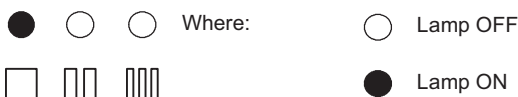

Figure 10.16
- The lamps F should give the indication as in Figure 10.16. If not, press the reset button repeatedly to obtain it.